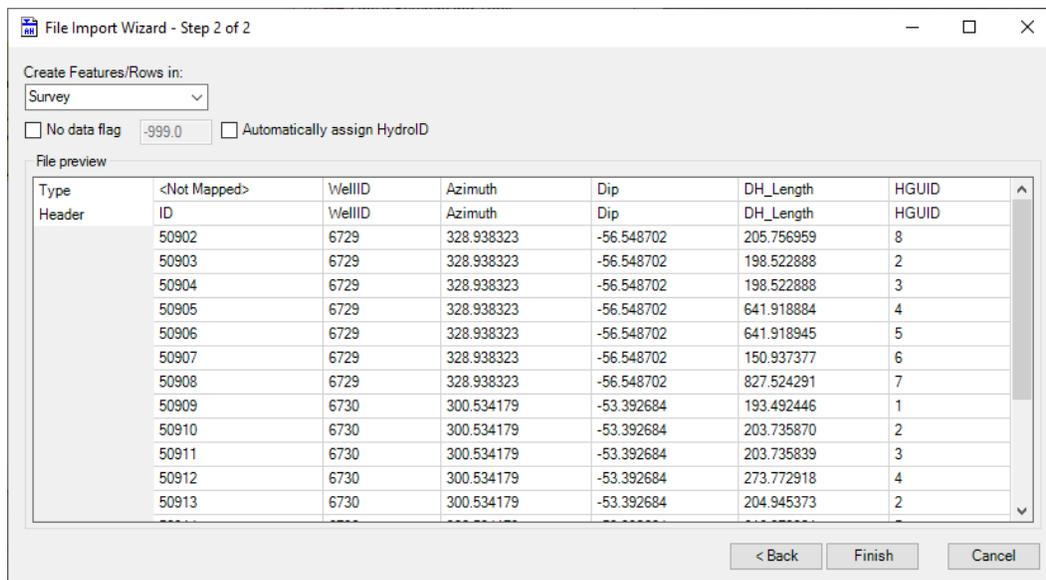

Figure 4 Settings for the Second Step of the File Import Wizard.
7. Make sure that the fields are mapped correctly as shown in Figure 4 (the fields should be matched automatically).